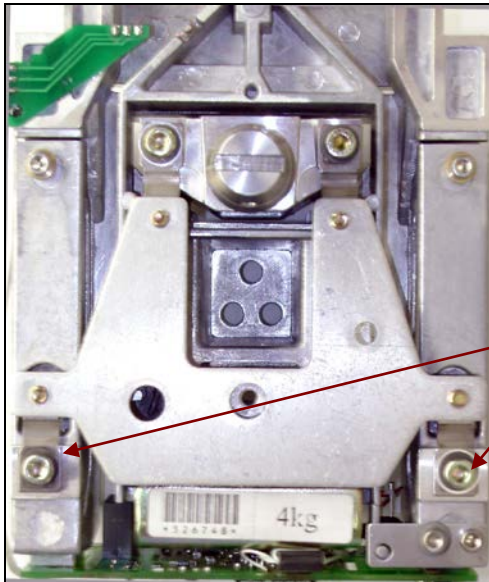

Figure 3-47. Precision Load Cell top.
- Loosen (do not remove) the two screws shown in Figures 3-47 and 3-48 that secure the top and bottom Flexure Arms at the end closest to the Position Sensor Board.